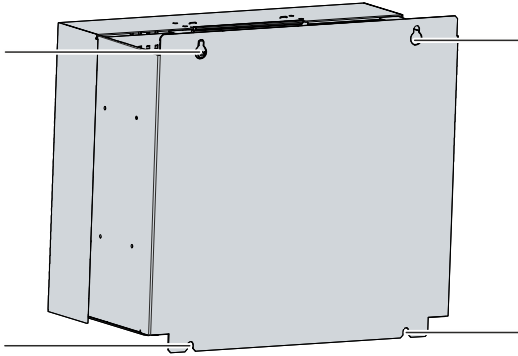

Fig. 17: C6650\_control cabinet installation
2. Hang the PC on the screws at the marked points of the mounting concept (see Fig. 17).